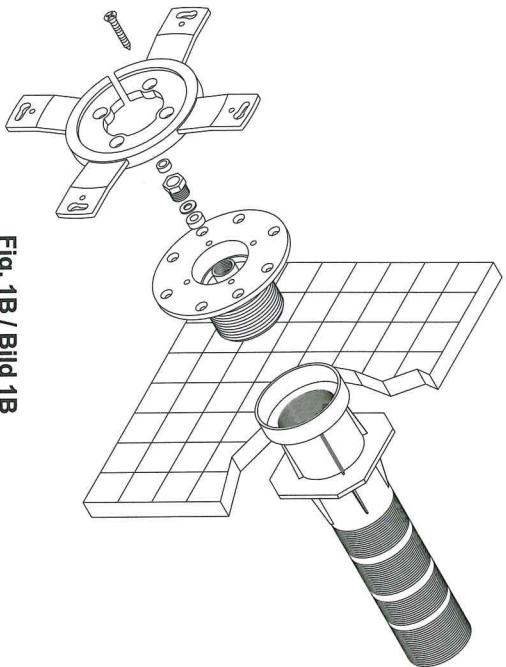

Fig. 1B / Bild 1B
• **Model PEP100.C.** suitable for prefabricated polyester swimming pools. To be fixed by means of screws, and 2" snap-on connector included in the unit (see fig. 1B, page 23).